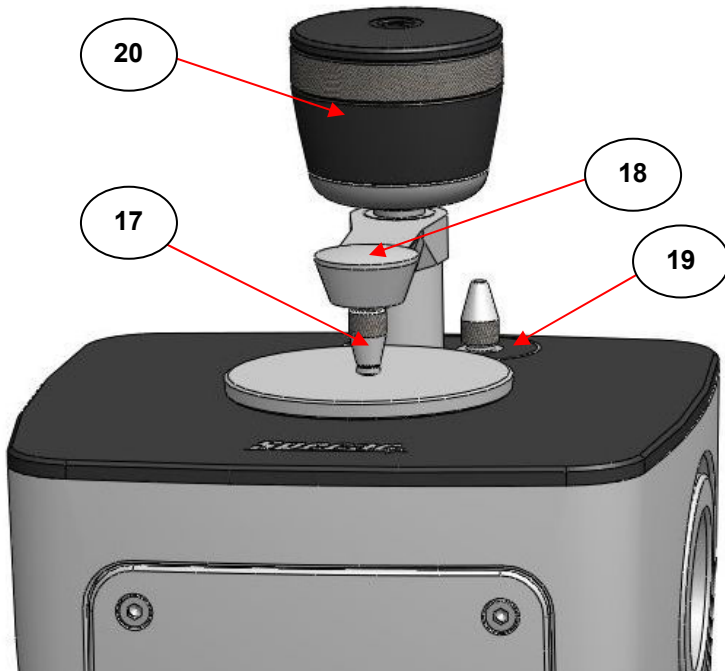

Fig 14. Clamp Arm Assembly with Flat Anvil in Sampling Position
The clamp arm assembly (18) rotates on its support post for positioning of the arm assembly. For application of a load force onto the ATR crystal puck the clamp arm (18) is rotated to a central click stop position pointing towards the front of the Quest ATR optical unit seen in Fig 14. This is known as the “**sampling**” position.
When turning the clamp arm assembly (18) from the **parked** to **sampling** position, the level of the anvil (17) pressing face must be sufficiently clear from the crystal surface to place a sample. The anvils height position is controlled by rotation of the torque limiter screw knob assembly (20). In Fig 14, the flat anvil (17) is shown being forced down onto the crystal puck from clockwise rotation and tightening of the torque limiter screw knob (20).